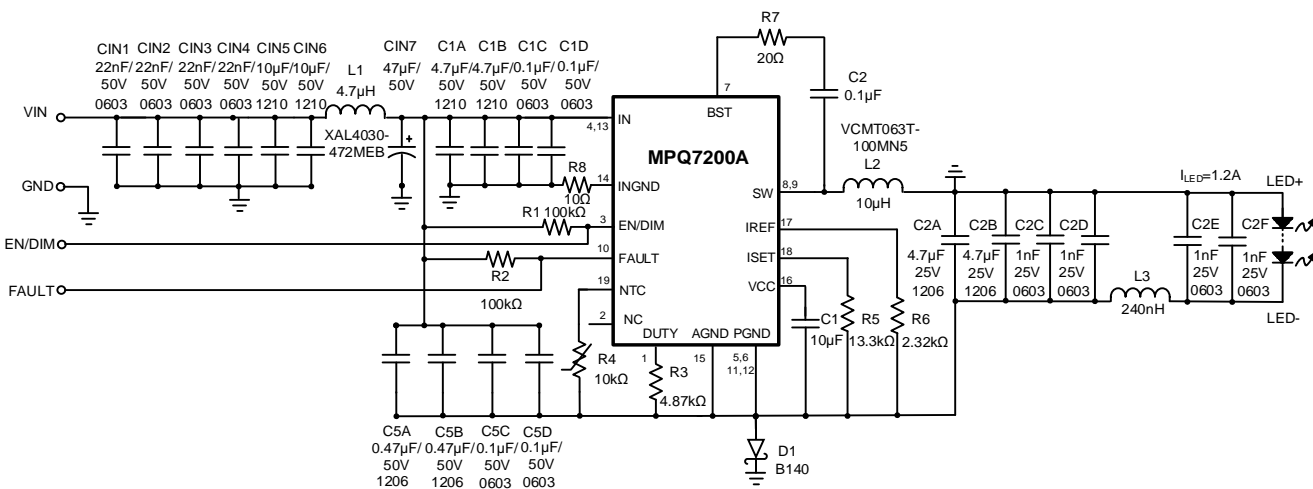

Figure 10: $I_{LED} = 1.2A$ Buck-boost Application Circuit (No Two-Step Dimming)
17) The recommended layout is based on Figure 10 on page 54.